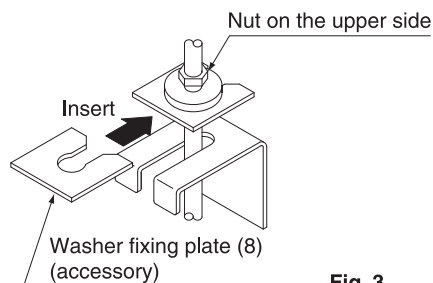

Fig. 3
(1) Temporally install the indoor unit.
• Connect the hanging brackets to the hanging bolts. Be sure to use and tighten the nut and washer (procured in the field) for each hanging bracket from both upper and lower sides of the hanging bracket. (Refer to Fig. 3) At that time, the fall of the washer for the hanging bracket can be prevented if the washing fixing plate (8) is used.